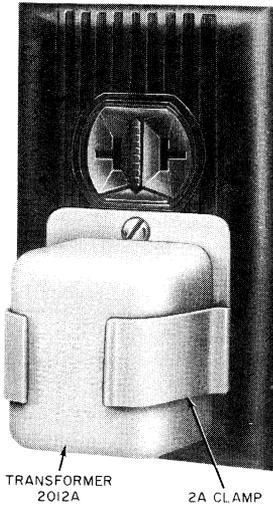

Fig. 1—2A Clamp
Danger: For safety, securely attach retaining clamp to ac outlet using outlet cover screw BEFORE attempting to install 2012-type transformer. See Fig. 1. When removing 2012-type transformer always unplug unit completely from outlet BEFORE attempting to remove the retaining clamp. This will prevent the possibility of a loosened retainer clamp or metallic outlet cover making contact with the ac prongs of the 2012-type transformer when partially withdrawn from outlet. Do not use 2A clamp or similar retaining clamp on outlets where cover mounting screw holds the duplex outlet in the box.
2.01 A 2A clamp may be used to secure the 2012-type transformer to a standard electrical service outlet (Fig. 1) in those locations where the transformer is subject to being accidentally dislodged from the receptacle.